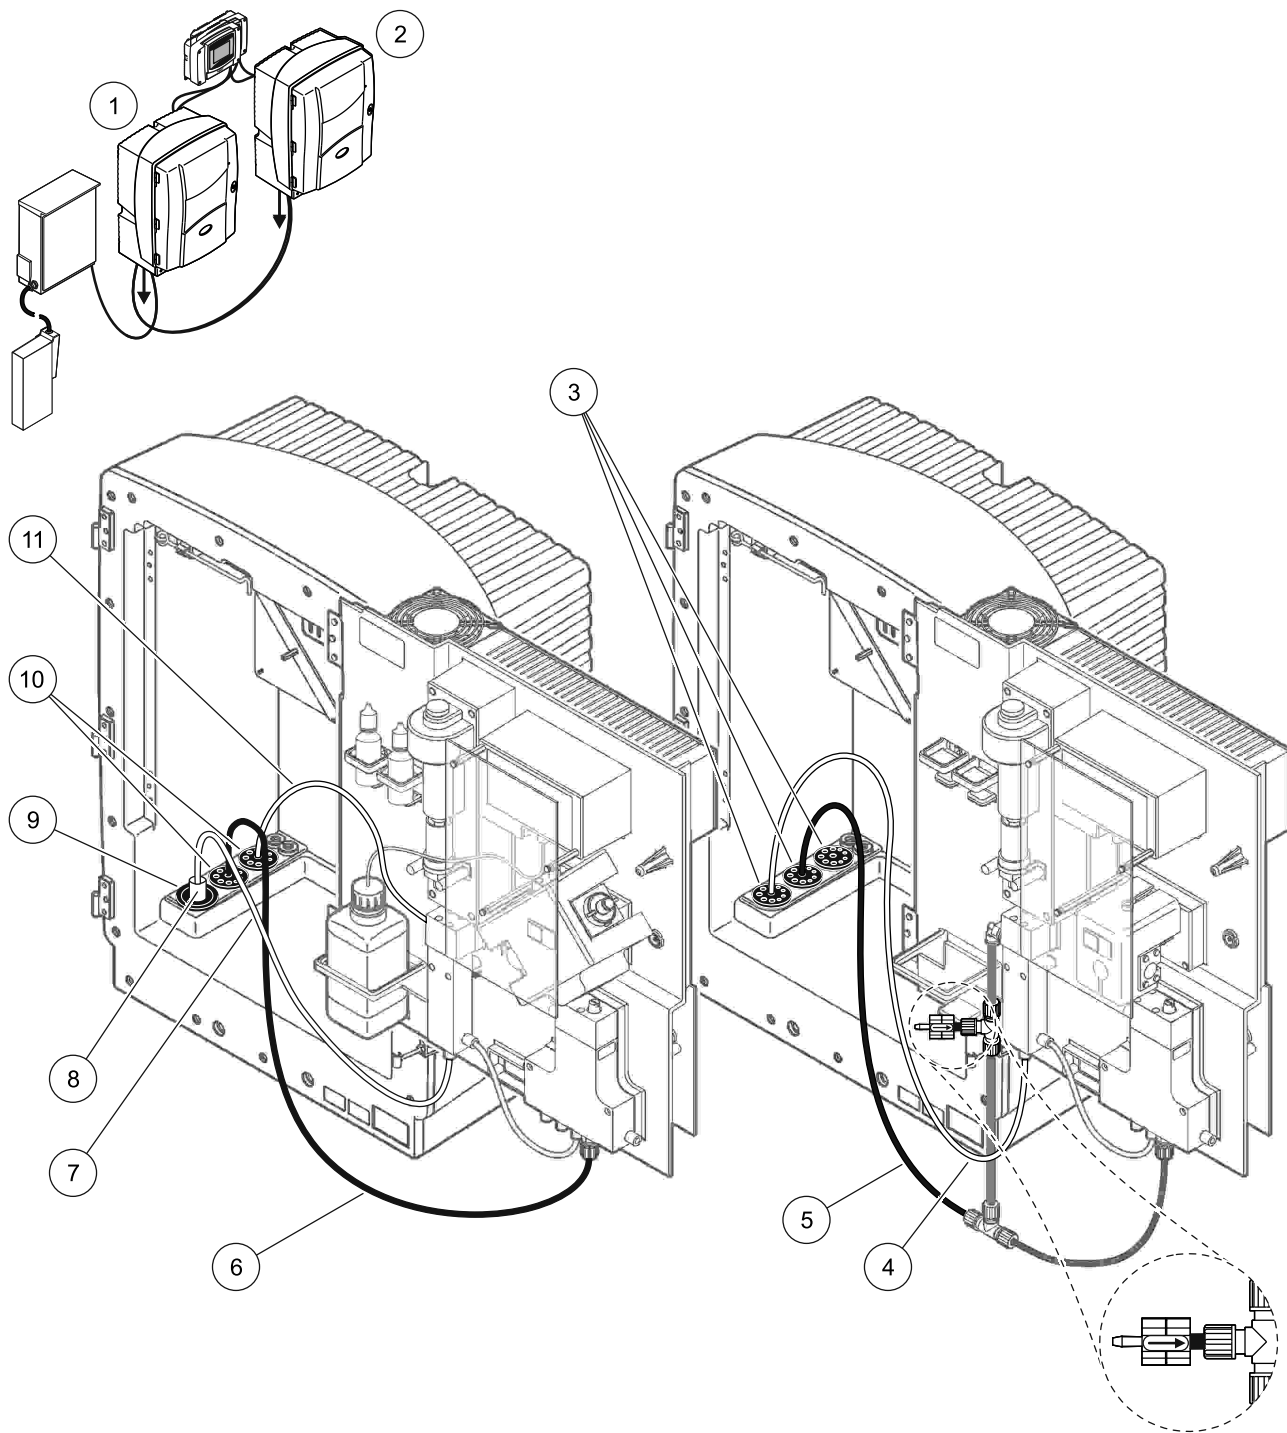

Figure 37 Option 8b setup
Refer to Figure 37 and the following instructions for Option 8b:
- a. Feed the heated hose from the FILTRAX through the analyzer opening (Figure 37, item 8). Use Seal Plug #1 to secure.
- b. Feed the drain tube through the analyzer opening (item 6) and to an open drain below Analyzer 1. Use Seal Plug #3 to secure.
- e. Feed the overflow vessel tubing (item 11) through Analyzer 1 to Analyzer 2. Use Seal Plug #3 to secure.
- g. Connect the drain tube to the valve block connector (item 6).
- h. Connect the FILTRAX sample line to the bottom inlet on the overflow vessel using the fittings (item 7).
- a. Feed the sample line from Analyzer 1 through Analyzer 2 (item 4). Use Seal Plug #3 to secure.